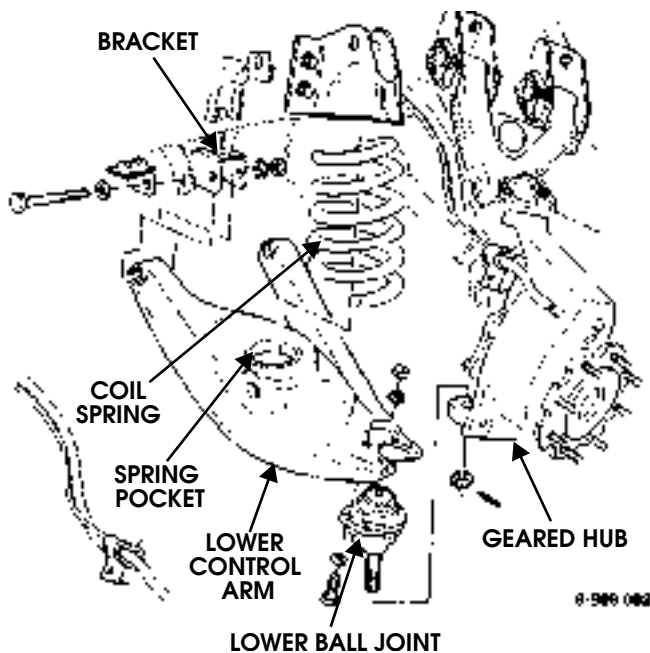

Figure 9-13: Lower Control Arm Replacement
4. Remove four locknuts, bolts, and eight washers from lower ball joint and lower control arm (Figure 9-13).
1. Install lower control arm on brackets with two bolts, washers, and locknuts. Do not tighten locknuts (Figure 9-13).